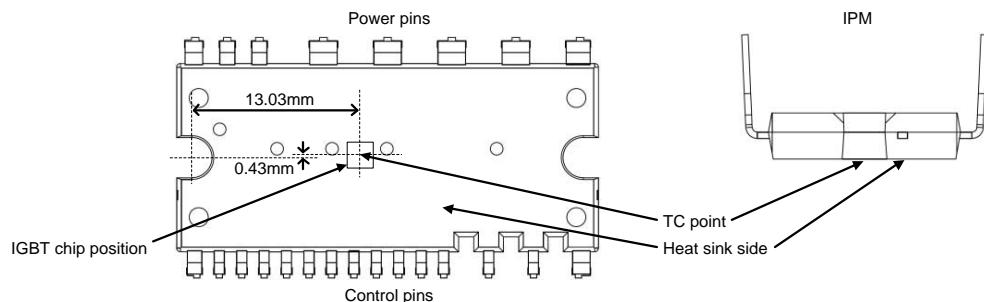

Figure 1.  $T_c$  Measurement Point
- For the measurement point of case temperature ( $T_c$ ), please refer to Figure 1.